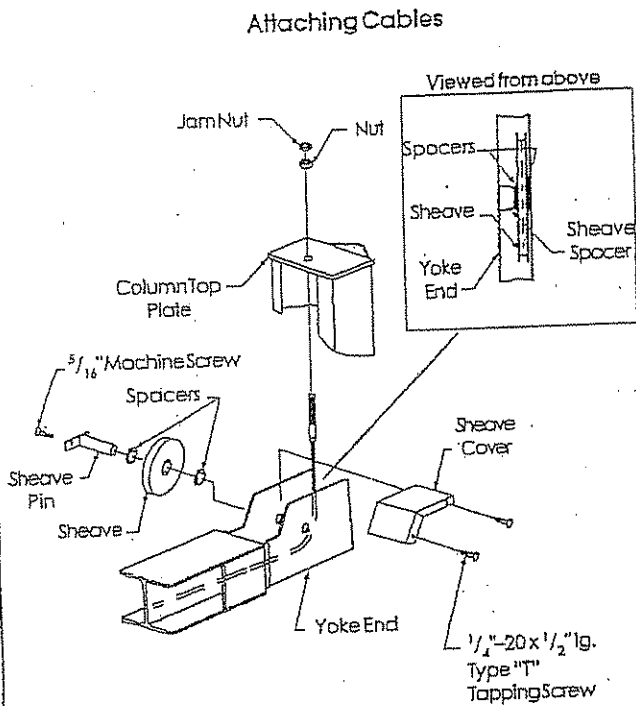
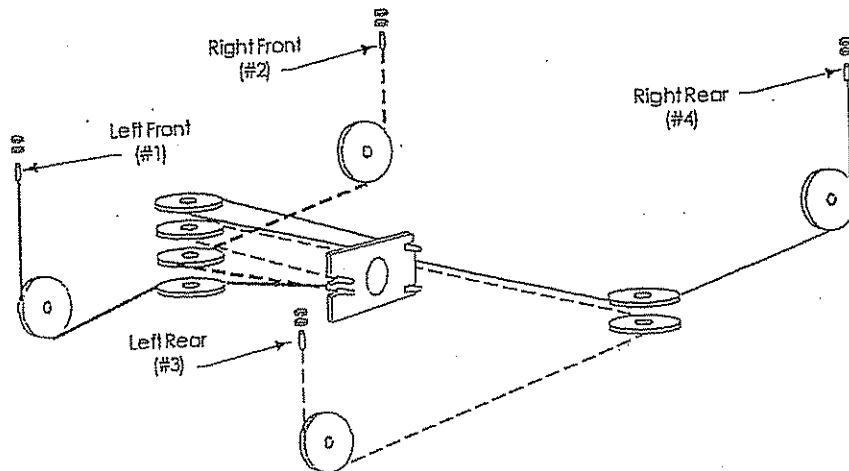

Fig. 13
Fig. 14
7. Cable Connection: Install yoke end sheaves, Fig. 13. Retain with sheave pin and $\frac{5}{16}$ " flat head machine screw. Attach each cable to column top plate with nut and jam nut. Install sheave covers on each yoke end, Fig. 13. Roping diagram shows a view of completed roping, Fig. 14.
8. Adjust Cable: Adjust all cables with lift fully lowered. Loosen cable jam nut. Tighten adjusting nut on cable stud on top of column until yoke end is raised $\frac{1}{4}$ ". Back off adjusting nut one (1) turn. Tighten jam nut. Do this for all four (4) cables. See Fig.13.